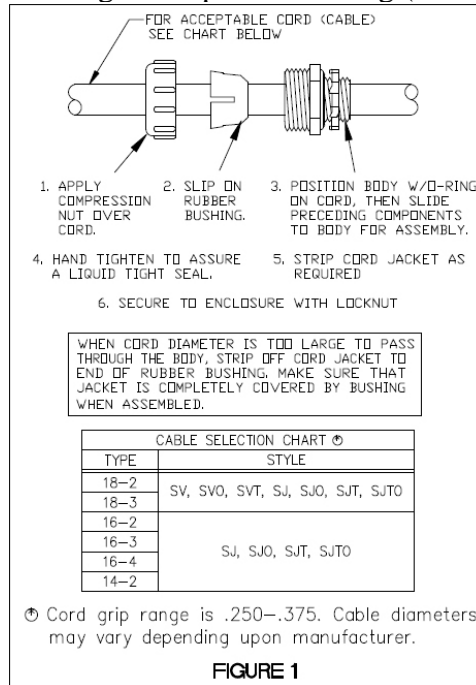

FIGURE 1
2. Drill box to accommodate a water/dust tight compression fitting (See Figure 1).
4. Thread AC service wires through compression fitting (See Figure 1).